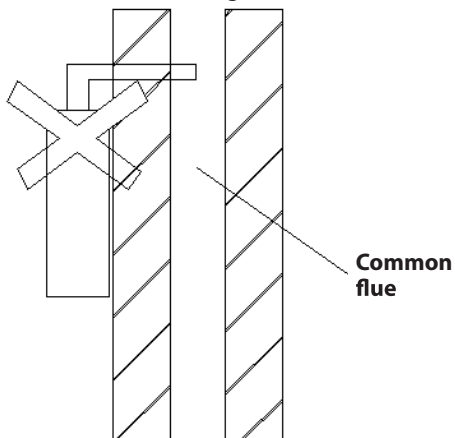

Figure 6.3-2
- The flue of the heater cannot be connected to a common flue (Figure 6.3-2)